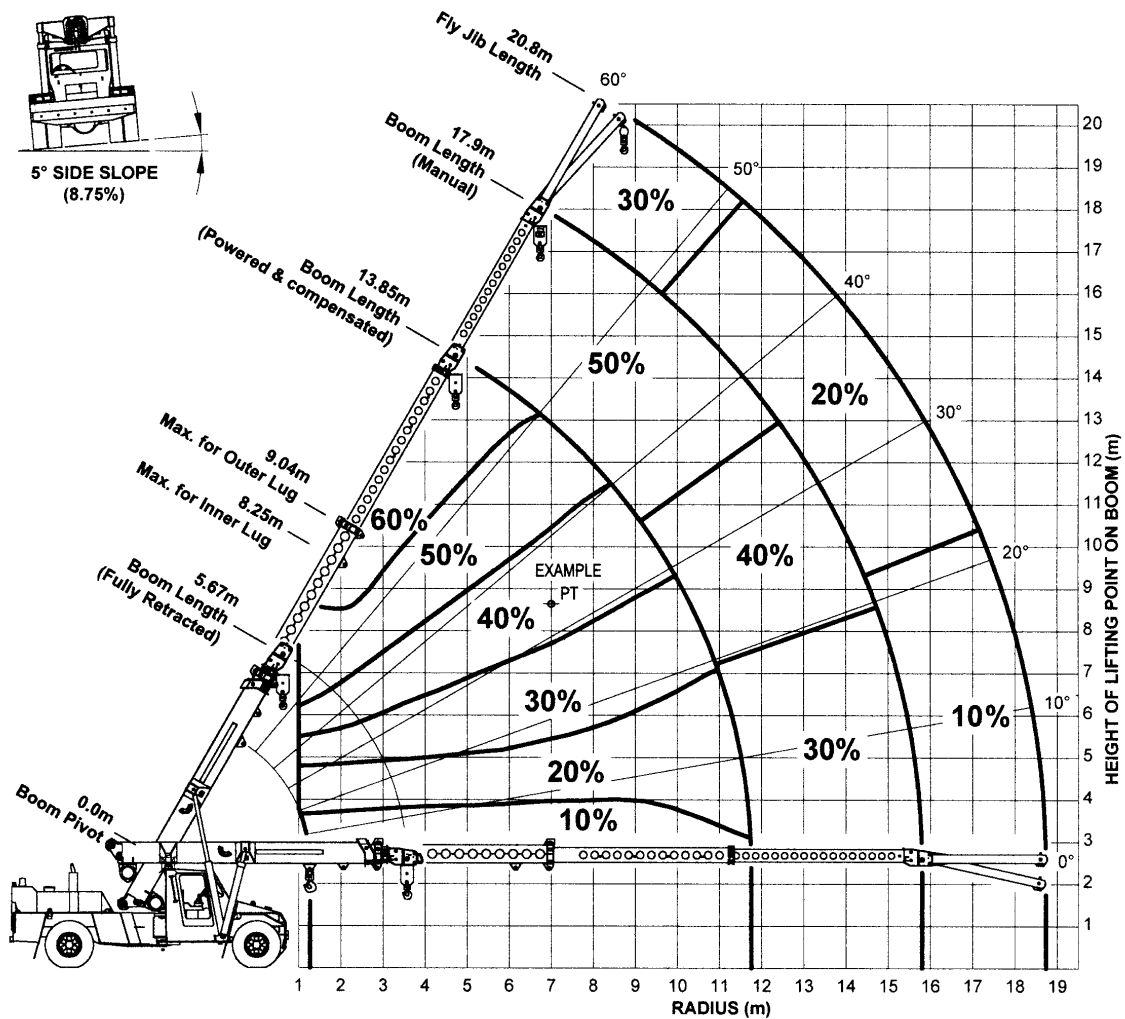

Figure 1: Percentage Deration Chart for AT-20
- **REDUCE** the rated capacity of the crane by the percentage value for the crane as shown in figure 1 for operating on side slopes up to 5° (8.75% gradient) - **REMEMBER** the crane's load indicator will **NOT** automatically derate the rated capacity.
Percentage Deration: 40 % (From Figure 1: Percentage Deration Chart)